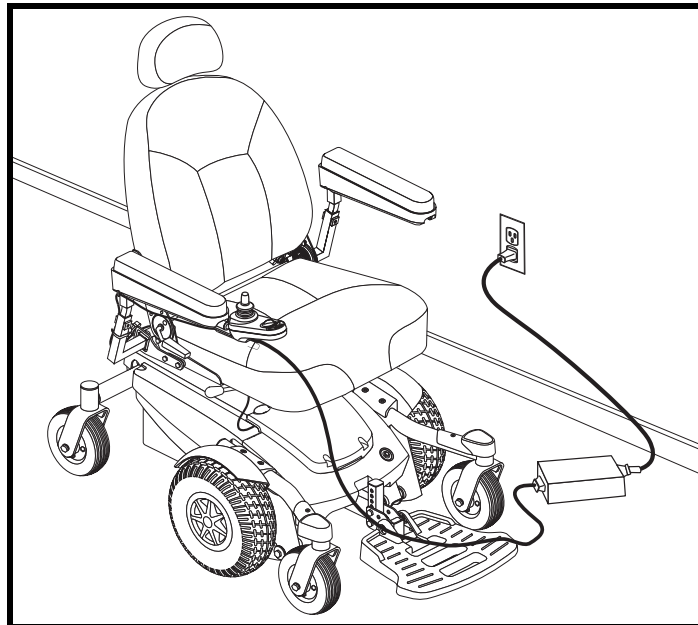

Figure 26. Battery Charging (Select 6 Shown)
3. Plug the off-board charger into the off-board charger/programming socket on the controller. See **figure 26**.